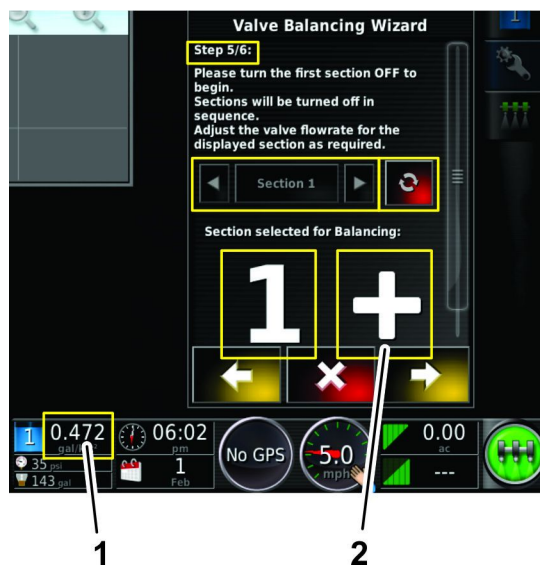

Figure 146
- The application rate for the section valve is too low (Figure 146).